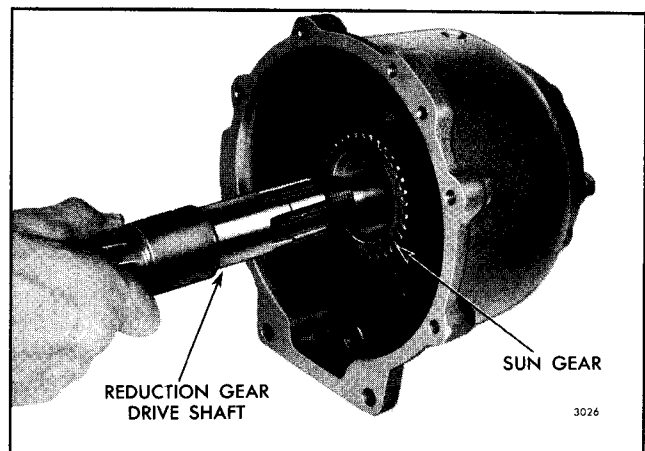

Fig. 98 - Installing Reduction Gear Drive Shaft in Sun Gear and Bearing (1.5:1 Ratio)
a. Lubricate the bearing contact surface of the reduction gear drive shaft with engine oil; then, insert the drive flange end (threaded end) of the drive shaft straight through the sun gear and the drive shaft bearing from the forward face of the gear housing as shown in Fig. 98.